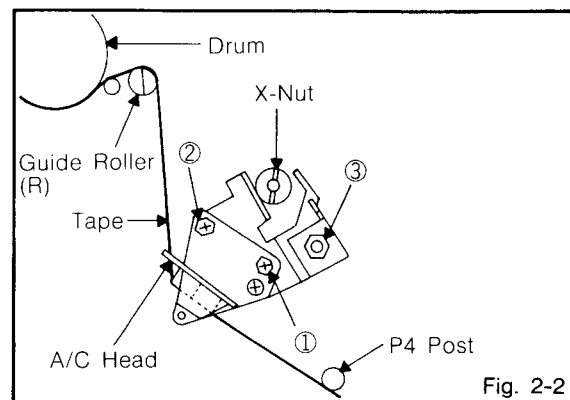
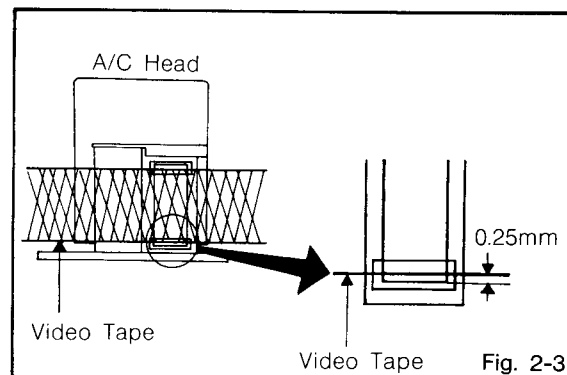

Fig. 2-2
Fig. 2-3
- Confirm that there is no crease on the tape between the P4 post and guide roller(R) and the tape is running smoothly. (It is absolutely impossible to get satisfactory sound if the tape is distorted between the A/C head and P4 post.)
- If the tape still does not run smoothly, turn the screw ① and adjust the tilt of the A/C head. (Refer to Fig. 2-2)
- Turn the screw ② slowly to change the azimuth of the A/C head. Adjust the azimuth so that the audio output becomes maximum. (Refer to Fig. 2-2)
- Adjust the nut ③, (Refer to Fig. 2-2) until the height of the A/C head reaches the position against the tape as shown in Fig. 2-3.
- Adjust the height of reel disk. (Refer to item 1-1)
- Confirm and adjust tension post position. (Refer to item 1-2)
- Adjust the guide roller. (Refer to item 2-1)
- Adjust the A/C head tilt. (Refer to item 2-2)
- Adjust the A/C head height and azimuth. (Refer to item 2-3)
- Connect CH-1 on the oscilloscope to TP4003 and CH-2 to TP1001. Insert the VHS alignment tape (JG001F) into the unit. Set the tracking control to the center position. Turn the X-nut using the X-nut adjustment screwdriver 2 (JG021A) (Refer to Fig. 2-2). Adjust the X-nut for the envelope to be maximum. (Refer to Fig. 2-1-A)